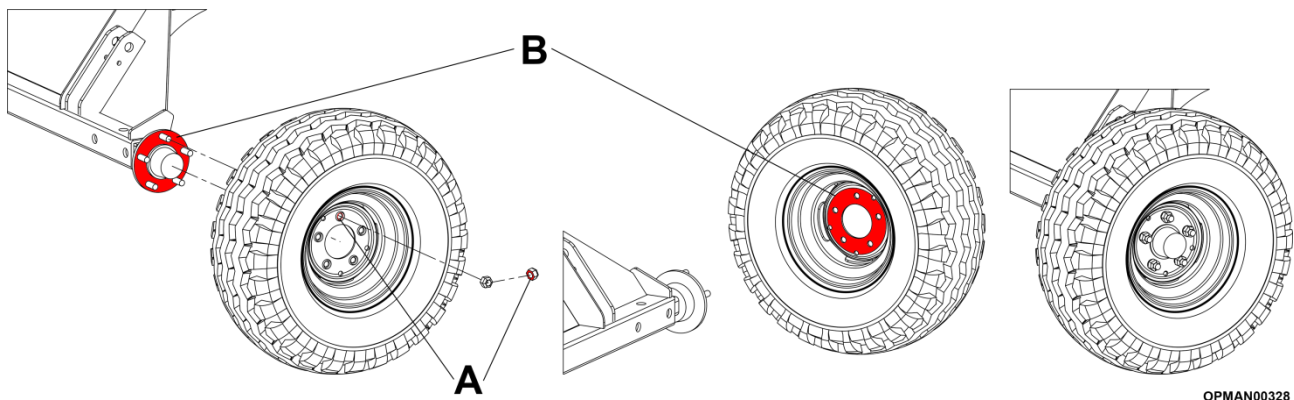

Figure 5.66 – Trident Road Tyre & Wheel Nut Orientation
When installing the wheel ensure that the **flat side of the lug nut is against the wheel**; see Figure 5.66 (A).
When installing the Trident road tyre option ensure that the **flat of the wheel face is against the hub face**; see Figure 5.66 (B).